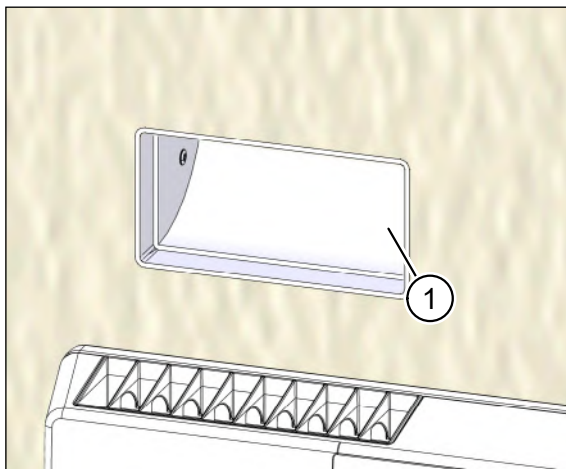

Fig. 50: Cleaning the ductwork connection
- ▶ Remove any soiling (e.g. remaining plaster) from the ductwork connections in the wall (item 1 in Fig. 50).